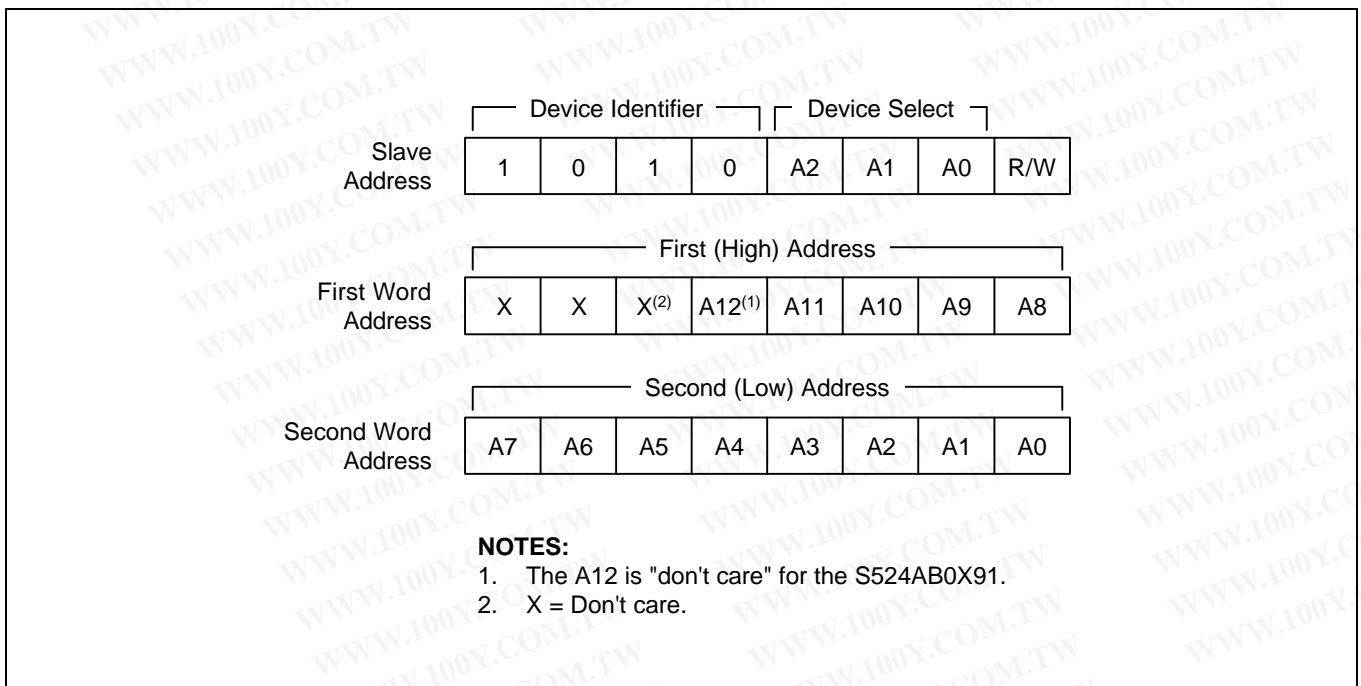

Figure 4-9. Device Address
- **Slave Address:** After the master initiates a start condition, it must output the address of the device to be accessed. The most significant four bits of the slave address are called the “device identifier.” The identifier for the S524AB0X91/B0XB1 is “1010B”. The next three bits comprise the address of a specific device. The device address is defined by the state of the A0, A1, and A2 pins. Using this addressing scheme, you can cascade up to eight S524AB0X91/B0XB1s on the bus (see Figure 4-9 below).